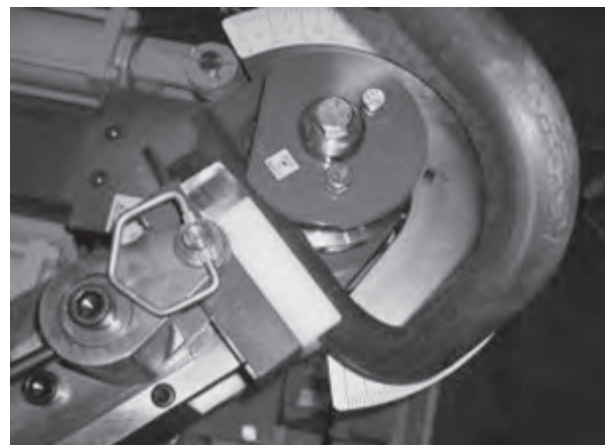

Figure 8.14 - Bending Material with Existing Bend
- Figure 8.14 shows bending material with an existing bend. In this photo, there is not enough material to complete a 90-degree bend. This bend will damage the dies. Extreme care must be taken when bending material with an existing bend. There must be enough straight material to complete the bend. If there is not enough material, the bent part of the material will crash into the counter die and damage the machine and tooling.